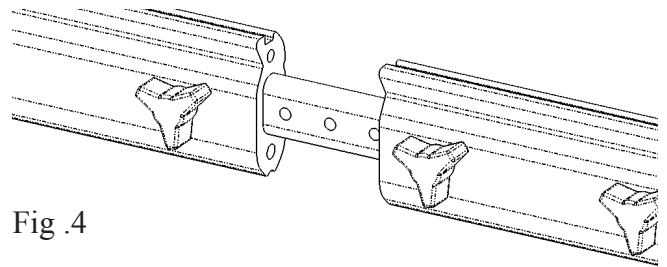

Fig .4
3) Note: If mounting larger sized or wide format monitors and additional extrusion length is required, simply extend the inner telescoping extrusions to provide the necessary space (as shown in Fig.4). They must be extended equally on each side of the unit to insure mounting symmetry.